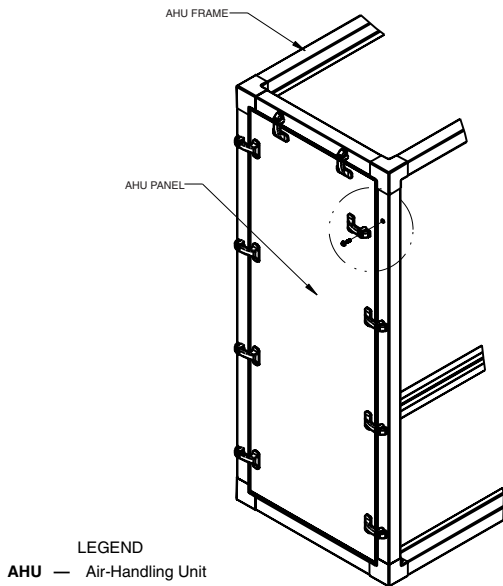

Fig. 43 — Remove Panel Retainers
7. Remove panel retainers from unit as shown in Fig. 43. If the coil connection housing spans more than one section DO NOT remove panel retainers that do not interfere with the coil connection housing mounting.